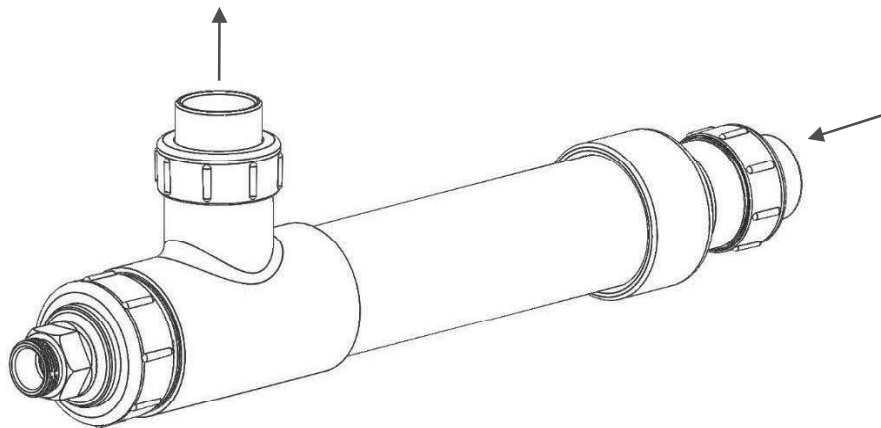

Figure 1: UV Reactor 'L' Flow Path
The XFLO™ UV system is a pressurized UV light reactor that uses Low-Pressure (LP), or Low-Pressure-High-Output (LPHO or HO) UV lamps in an 'L' configuration, as shown in Figure 1.
- L' inlet and outlet configuration. Flow enters reactor in parallel with lamps, maximizing disinfection efficiency. See Figure 1